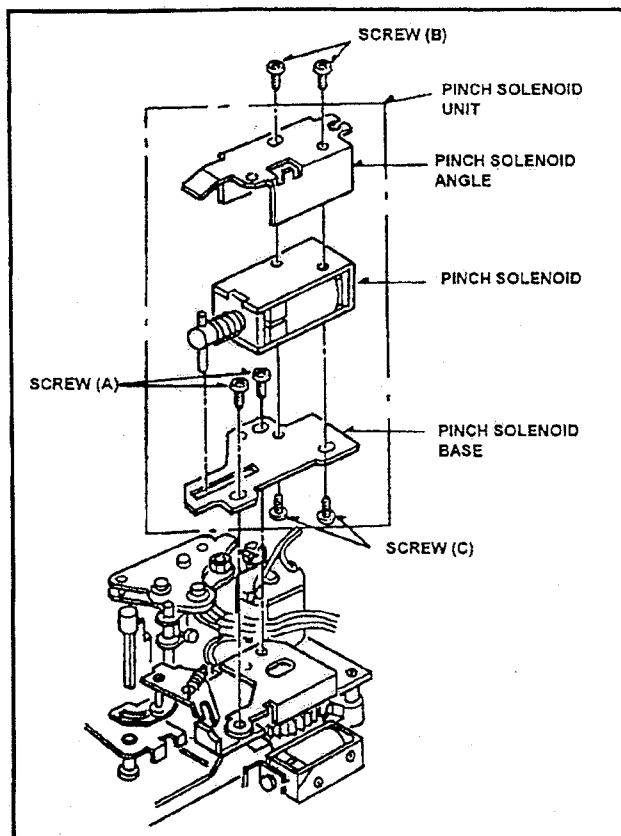

Fig. M9
3. Unscrew the 2 screws (A) and remove the Pinch Solenoid Unit as shown in Figure M9.
4. Unscrew the 2 screws (B) and remove the Pinch Solenoid Angle.
5. Unscrew the 2 screws (C) and remove the Pinch Solenoid from the Pinch Solenoid Base.